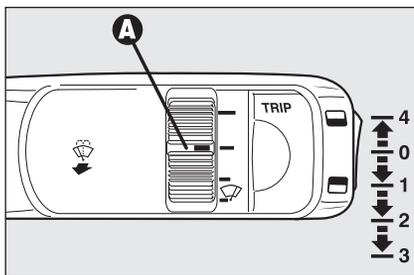

fig. 54
Right-hand stalk **fig. 54** controls wind-screen washer/wiper operation.
The rain sensor is activated automatically moving the right-hand stalk to position **1-fig. 54** and it has a range of adjustment that gradually varies between wiper stationary (no wiping) when the windscreen is dry, to wiper at second speed (continuous, medium wiping) with heavy rain.
Turning the knurled ring **A-fig. 54** it is possible to increase the sensitivity of the rain sensor, obtaining a quicker change from stationary (no wiping) when the windscreen is dry, to first continuous speed (continuous, slow). A further stroke will confirm operation.
Operating the windscreen washer with the rain sensor activated (stalk at position **1-fig. 54**) the normal washing cycle is performed at the end of which the rain sensor resumes its normal automatic function.
Removing the electronic key from the ignition device, the rain sensor is deactivated and the next time the engine is started it will not be reactivated even if the stalk has remained in position **1-fig. 54**. In this case to activate the rain sensor, simply move the stalk to **0** or **2** and then back to **1**.
**IMPORTANT** In the event of rain sensor failure, windscreen wiper operation with right-hand stalk at **1-fig. 54** shall be intermittent. If failure occurs during automatic operation, the system will keep the last wiper operating condition. Operation is however guaranteed although moving the stalk to other positions.